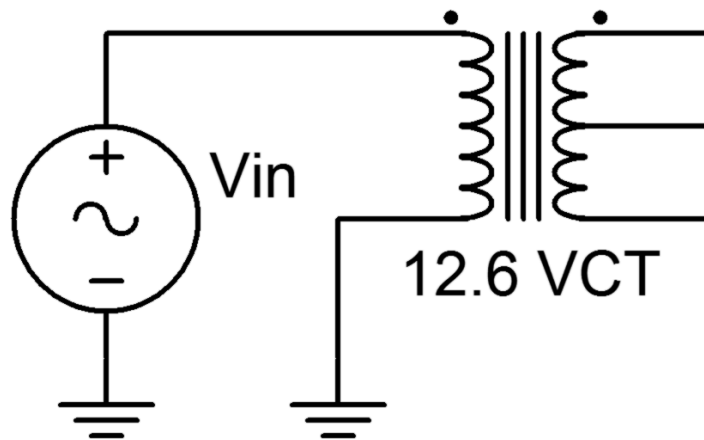

Figure 1
1. Consider the circuit of Figure 1. With a 12.6 volt secondary rating and a 120 volt primary rating, the turns ratio is approximately 10:1. In other words, for any reasonable input signal at the primary, the output at the secondary is expected to be one tenth the voltage and ten times the current.
2. Connect the primary side of the transformer to the function generator as shown in Figure 1. Set the generator to a 10 volt peak sine at 60 Hz. Place the oscilloscope probe grounds at the bottom of the secondary. Connect probe tip one to the top of the secondary and probe tip two to the center tap. Record the peak amplitudes in Table 1 and capture an image of the scope display. Compute and record the primary/secondary voltage ratio as well (for the full secondary).